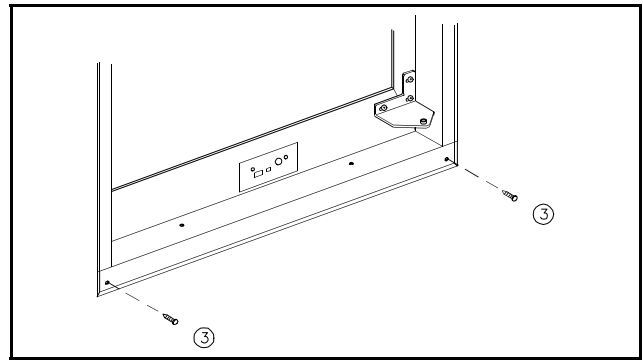

Figure 6
2. Once the lower flange is slipped around the hinge, the part will swing into place into place as shown in Figure 6.